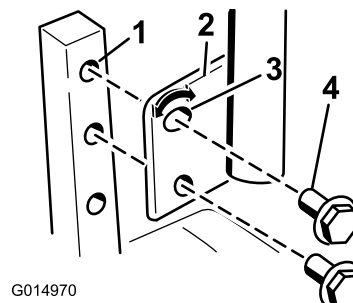

Figure 22
- 1. Remove the 2 bolts holding the control lever to the control arm shaft (Figure 22).
- 2. Move the control lever to the next set of holes. Secure the lever with the 2 bolts (Figure 22).
- 2. Loosen the lower bolt just enough to pivot the control lever fore or aft (Figure 22). Tighten both bolts to secure the control in the new position.